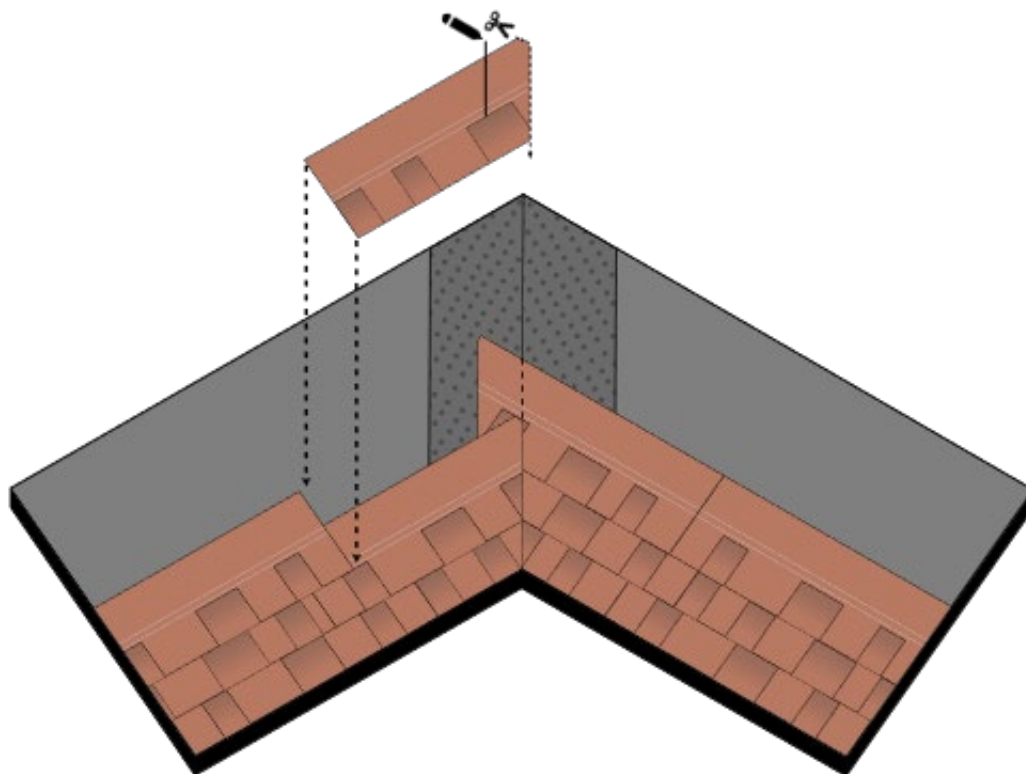

Fig. 21 – Shingles installation by torch at the valley
- Fix the shingles to the bituminous membrane using the torch, always heating the membrane and not the shingle itself. Once the shingles are installed along the entire pitch and valley length, move on to the adjacent pitch. Begin laying the shingles in subsequent rows. Secure them using the torch, again heating the membrane and not the shingle element. The last shingle of each row should reach at least the valley centreline. After completing the installation of shingles on the second pitch, mark the valley centreline using the tracing technique. Then proceed to cut the shingles on the second pitch along the valley line, as done for the nailed installation - Fig. 21. Cut the upper edge of the shingle transversely at the valley, directing the descending water along the valley centreline. Lift the shingles on the second pitch in the valley, one at a time, and apply Bitustick to the underside for their final bonding - Fig. 21.